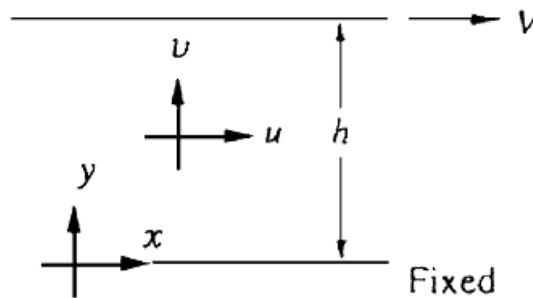

Figure 2.
3. Two infinite plates a distance h apart are parallel to the xz plane with the upper plate moving at speed V , as in Fig. 2. There is a fluid of viscosity μ and constant pressure between the plates. Neglecting gravity and assuming incompressible turbulent flow $u(y)$ between the plates, use the logarithmic law and appropriate boundary conditions to derive a formula for dimensionless wall shear stress versus dimensionless plate velocity. Sketch a typical shape of the profile $u(y)$.